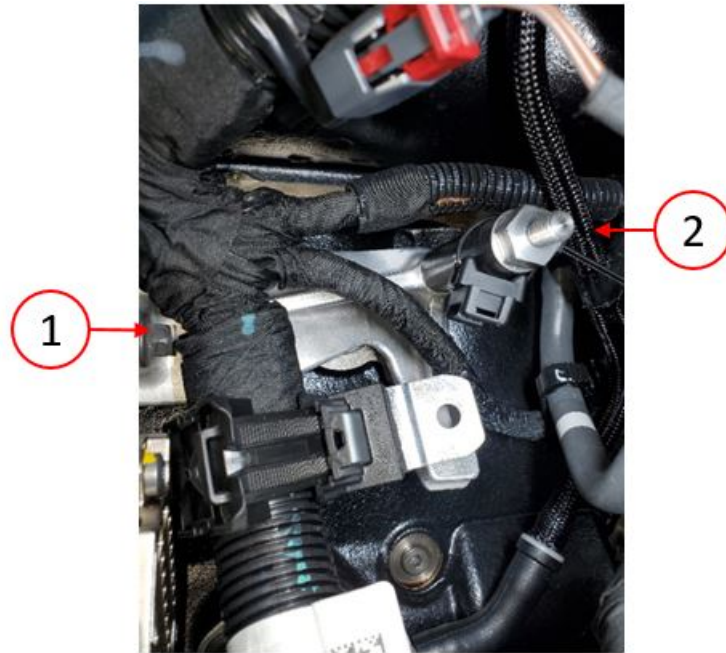

Fig. 11
28. Install the fuel pump tail support bracket to fuel pump. Loosely install the tail support bracket on the fuel pump using **30mm M8 bolt (Mopar PN 4429114 /Supplier PN 3902114)**(Fig. 11) .